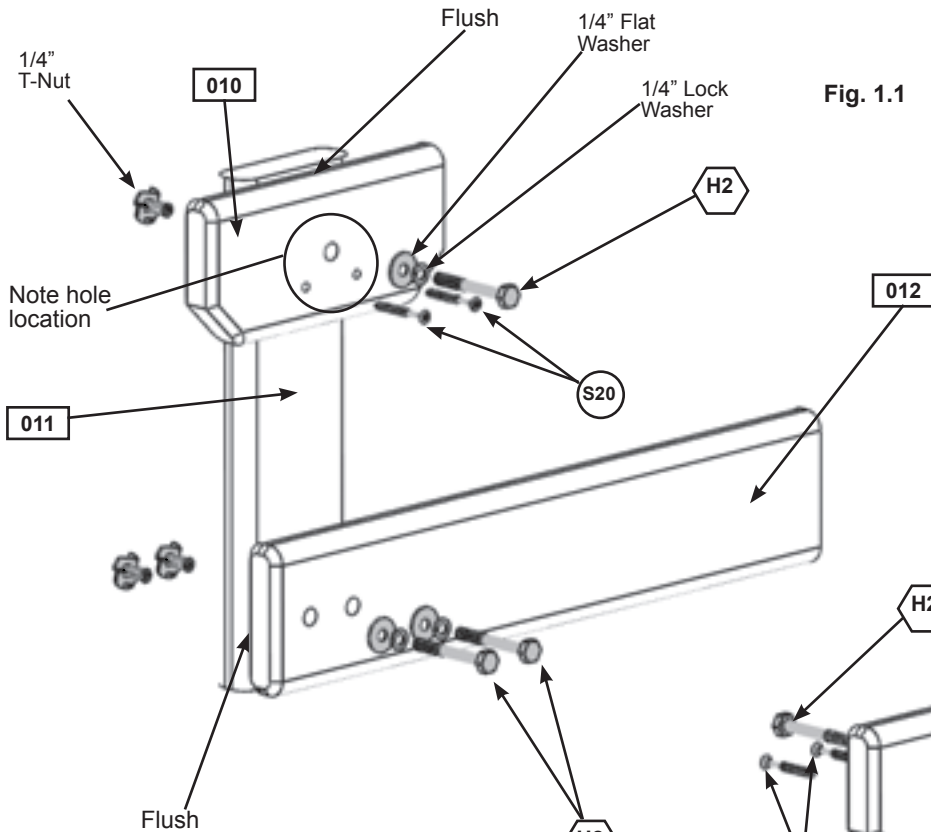

Fig. 1.1
A: Flush to the top of (011) Bench Leg Cafe place (010) Bench End Support Cafe, angled corners facing down and centred on the legs. Attach with 1 (H2) 1/4 x 2" Hex Bolt (with lock washer, flat washer and t-nut). Make sure the top of (010) Bench End Support Cafe is level then attach with 2 (S20) #8 x 1-3/8" Wood Screws as shown in fig. 1.1.
B: Flush to the outside edge of (011) Bench Leg Cafe attach (012) Bench Base Cafe with 2 (H2) 1/4 x 2" Hex Bolts (with lock washer, flat washer and t-nut) as shown in fig. 1.1.